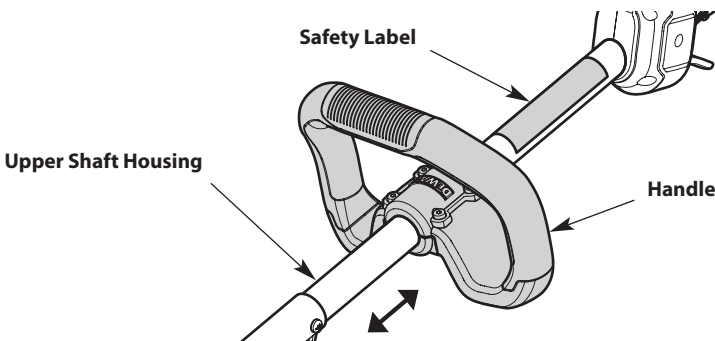

Fig. 5
5. Hold the unit in the operating position. Move the handle up or down the upper shaft housing to a comfortable location (Fig. 5). Make sure the handle is positioned beyond the end of the safety label (Fig. 5).
2. Hold the unit in the operating position. Move the handle up or down the upper shaft housing to a comfortable location (Fig. 5). Make sure the handle is positioned beyond the end of the safety label (Fig. 5).